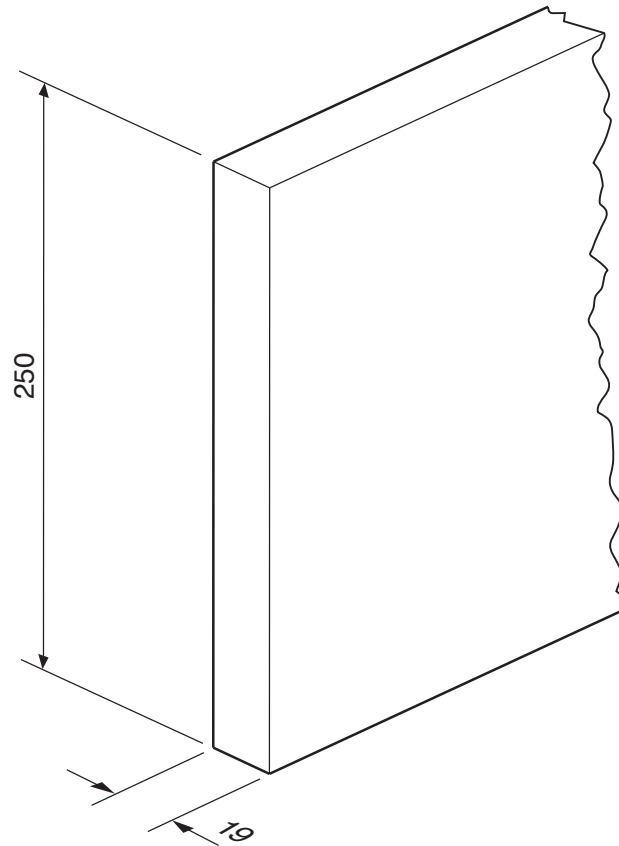

Fig. 22
- (c) The sides will be joined to the back using four  $\text{Ø}9$  dowels. Fig. 22 shows part of the back of the cycle rack.
- (i) Draw on Fig. 22 to show the positions and spacing of the four dowels. [2]